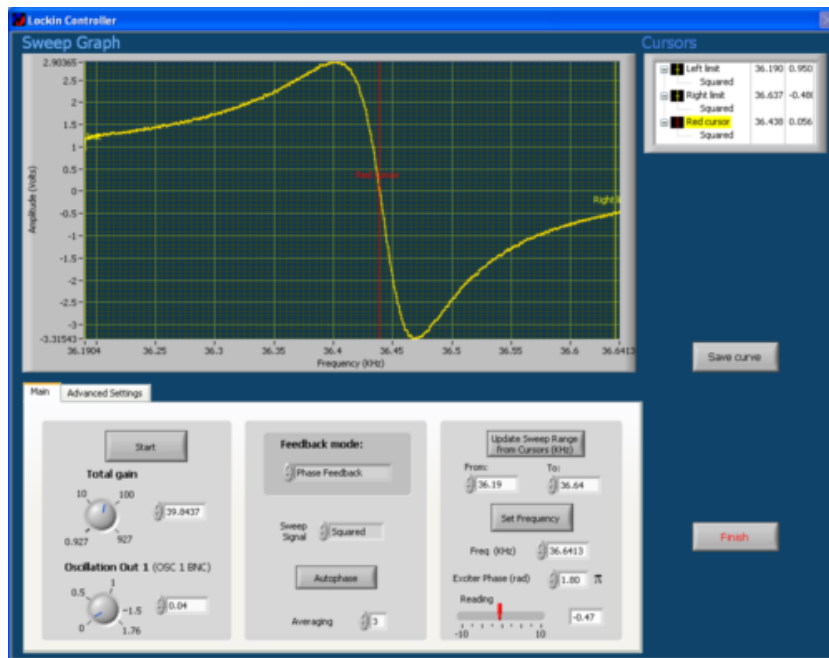

Figure 42: Obtaining the Phase Curve
A Phase vs. Frequency curve is generated. It should be similar to the graph in Figure 42 below, when Autophase is functioning correctly.
3. Move the red vertical cursor along the X axis (the frequency axis) so that it intersects the graph at the vertical center of the curve (see Figure 42 above.).
The amplitude of the squared signal should be zero at the center of the curve, as in Figure 42 above. Should you find that the zero is not at the center, carry out the following adjustment: